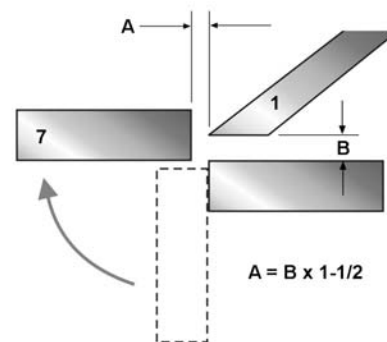

Figure 3
The bending leaf lower fingers (7) must be adjusted for proper clearance or "setback" (A, Figure 3) based on material thickness (B, Figure 3). Generally, setback for material within four gauges of capacity should be twice the thickness of material. For lighter gauges, use 1-1/2 times the material thickness. Consult a machinery handbook for bend allowances.